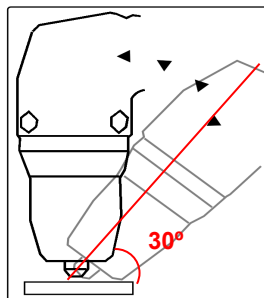

Figure 3
- Should you need to make holes or begin cutting from the centre of the work piece, you must hold the torch at an angle (□ 30°), and slowly straighten it so that the nozzle does not spray molten metal (see Fig. 3). This must be done when making holes in pieces more than 3 mm thick.